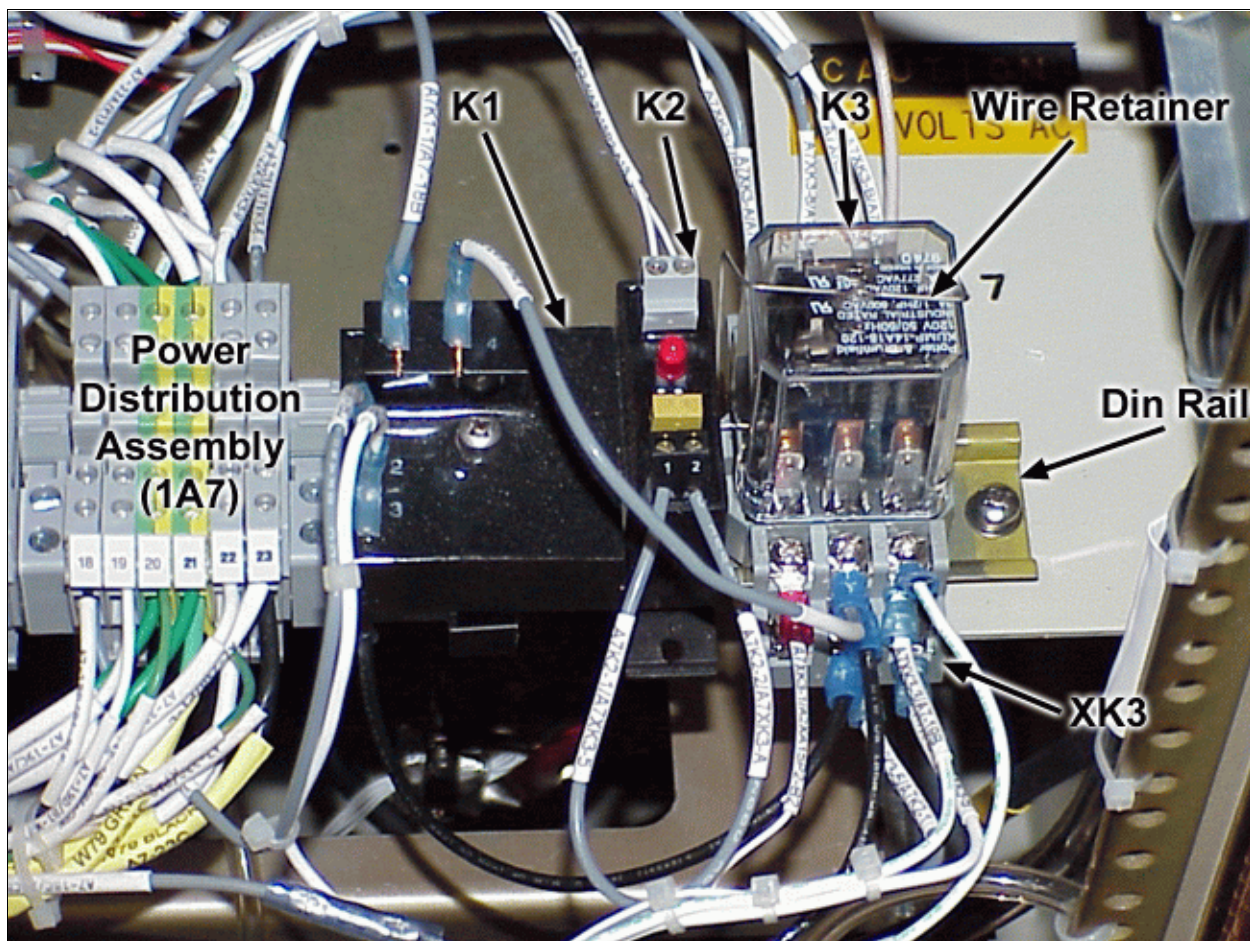

Figure 5 UPS Bypass Assembly (1A7)
22. Locate K2 (62828-90429-1) and XK3 (62828-90430-1) in the FMK, and slide them onto the din rail to the right of the PDA. Refer to figure 5.